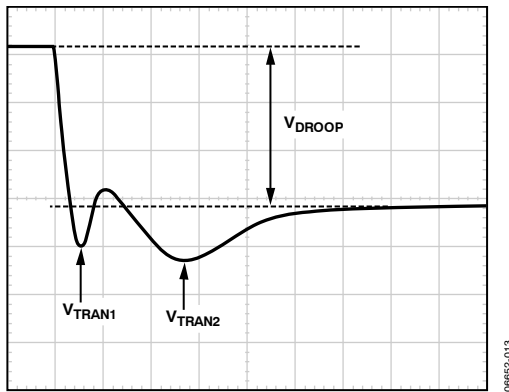

Figure 16. Transient Setting Waveform
1. With the dynamic load set at the maximum step size, expand the scope time scale to either 2 μs/div or 5 μs/div. This may result in a waveform that has two overshoots and one minor undershoot before achieving the final desired value after  $V_{DROOP}$  (see Figure 16).